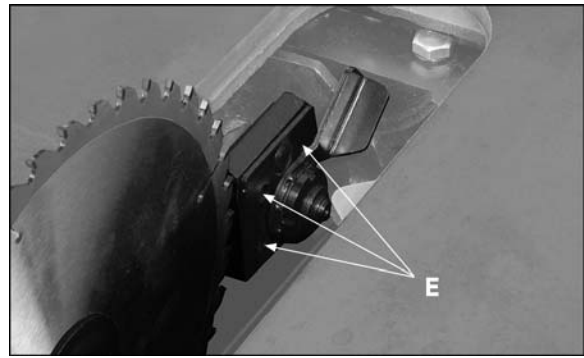

Figure 28
4. If correction is needed, remove straight edge, table insert, and riving knife and locate four set screws (E, Figure 28) through the corner holes of clamp block.